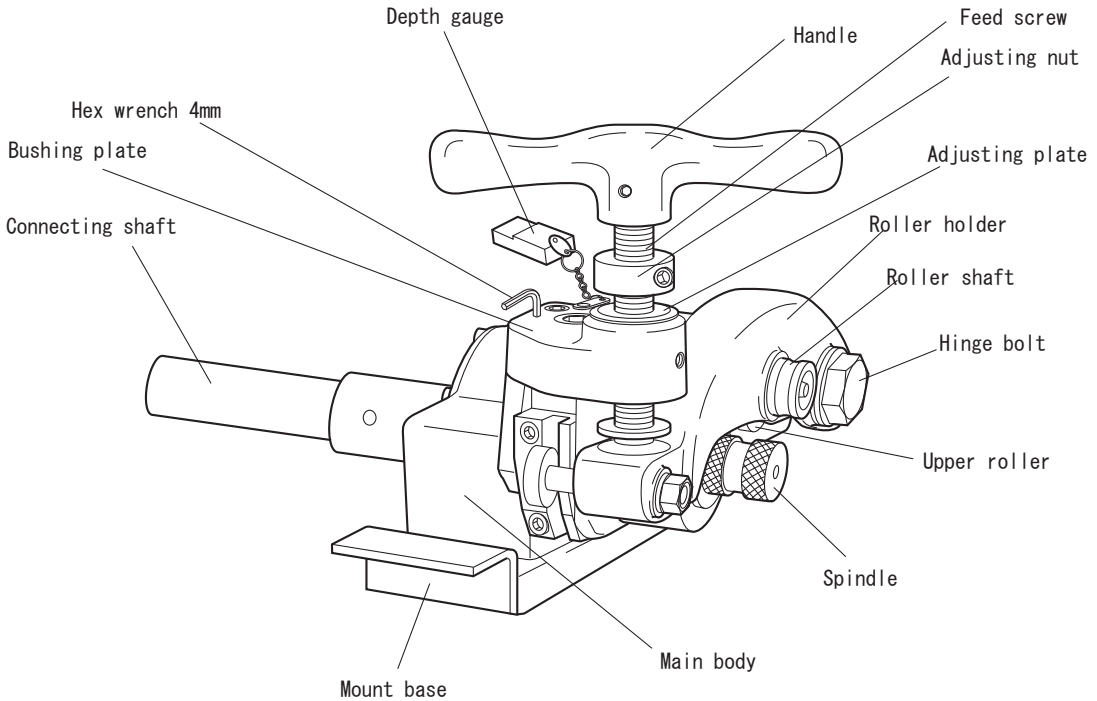

Fig.1
- 1) Use rollers that match the pipe size. (Refer to Fig. 1, 5)